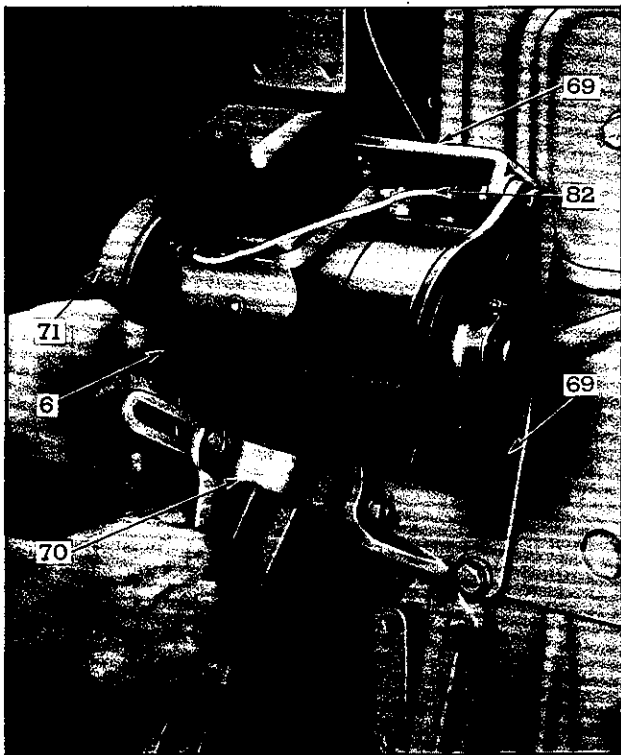

Fig. 12—Battery Charging Generator Mounting and Belt Tension Adjustment.
1. Hang generator assembly to mounting bracket with two bolts, lock washers, and nuts as shown in Fig. 12.
2. Fasten adjusting strap (70) to bottom extension of drive end frame (6), and adjust drive belt tension as outlined on Page 7, Sec. 13.
3. Attach cable (82) from control cabinet to "BAT" terminal on voltage control unit.